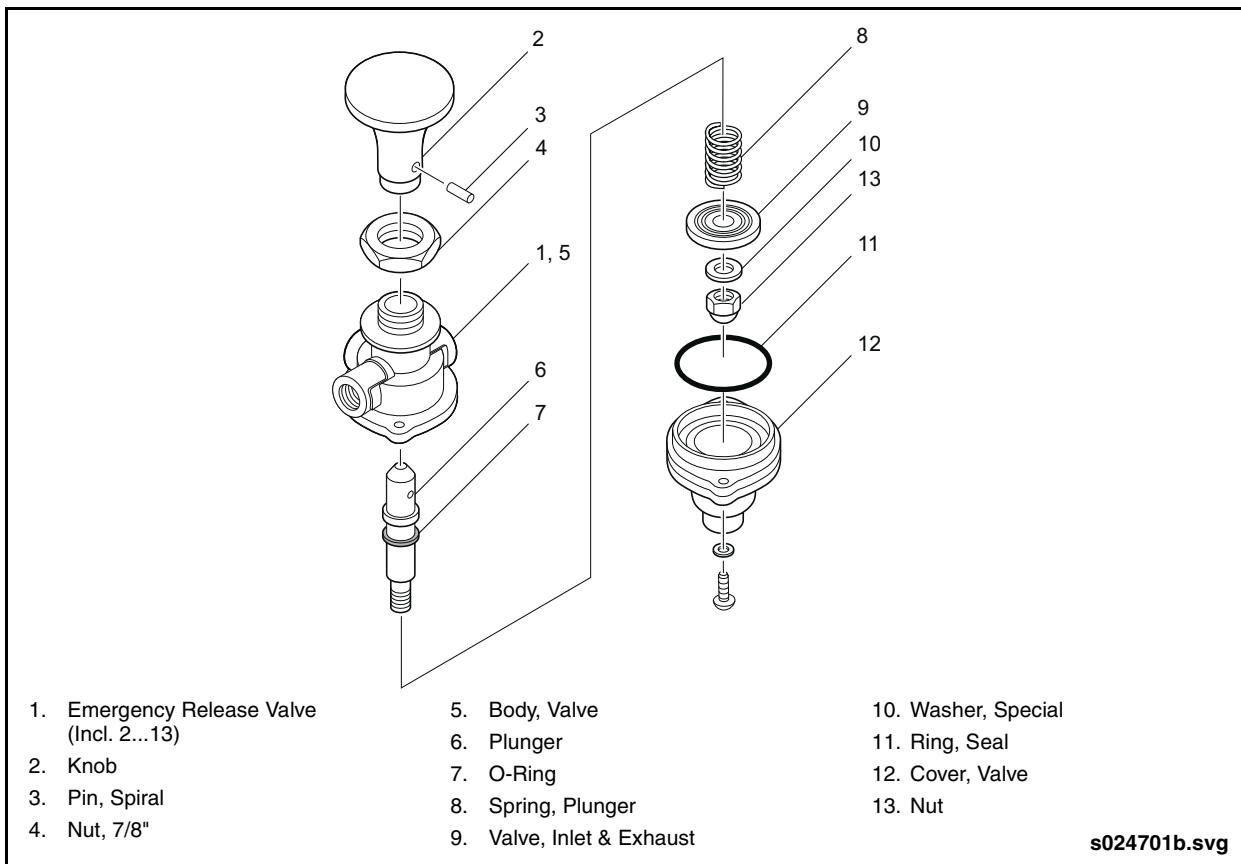

Fig. 8-23: Emergency Release Valve Assembly
2. Drive the button roll pin out with a punch and remove the button. See “Fig. 8-23: Emergency Release Valve Assembly” on page 82.